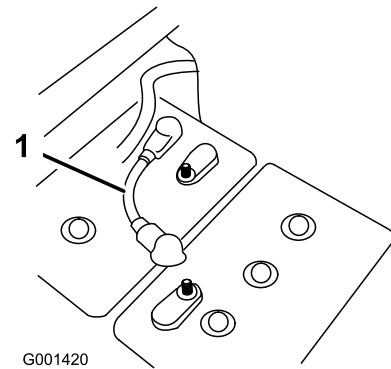

Figure 2
4. Remove a short battery cable linking any 2 batteries in the battery bank to remove power from the system (Figure 2).